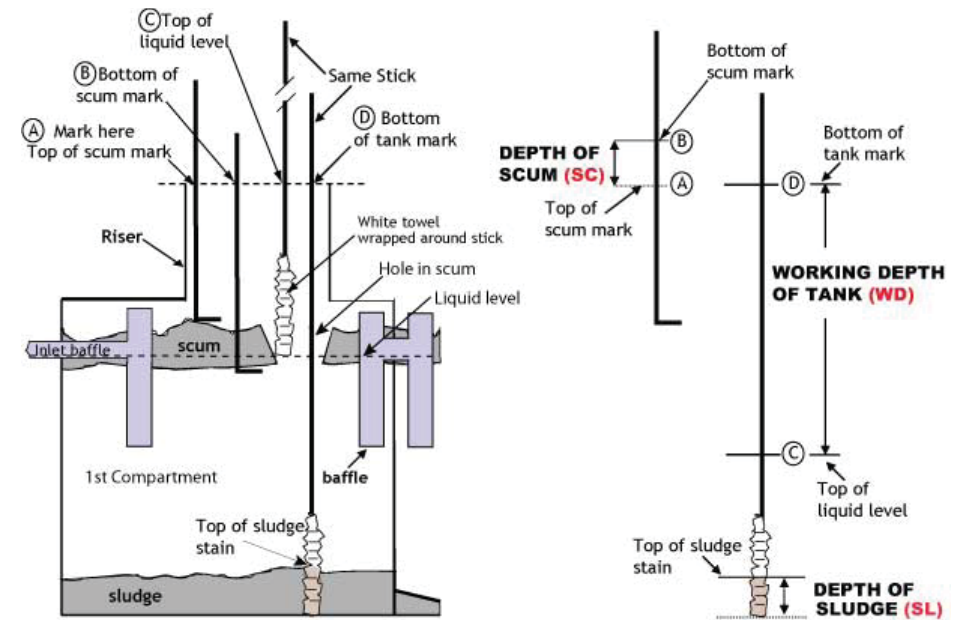

FIGURE 1 - SCUM DEPTH (SC), SLUDGE DEPTH (SL) AND WORKING DEPTH OF TANK (WD)
3. Place the scum stick down the manhole of the first compartment of the tank until it rests on top of the scum layer (see Figure 1) and mark the scum stick where it crosses the reference point (A).
5. Mark the scum stick where it crosses the reference point (B).
6. Remove the scum stick and measure the distance between the two marks. This is the thickness of the scum layer (SC).
4. Carefully lower stick through the hole in scum in first compartment until it rests on top of the liquid layer. Mark the stick where it crosses the opening of the manhole or riser (C in Figure 1).
6. Mark the sludge stick where it crosses the board (D in Figure 1).